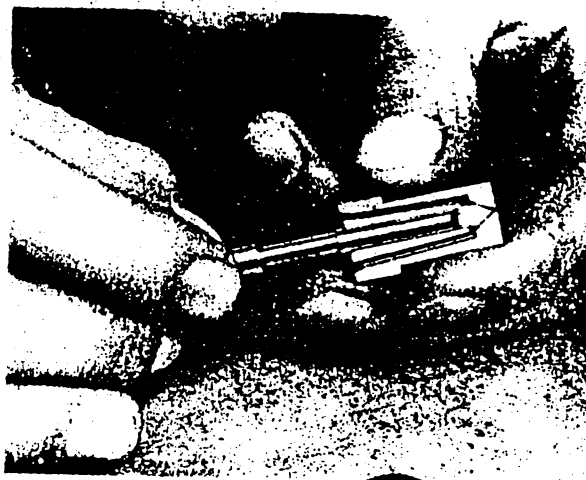

FIG 129
4. With the nozzle body seat scrape (ET.070) clean all carbon from the valve seatings by pressing the tool on to the seat and rotating the nozzle body by hand, see Fig. 129.